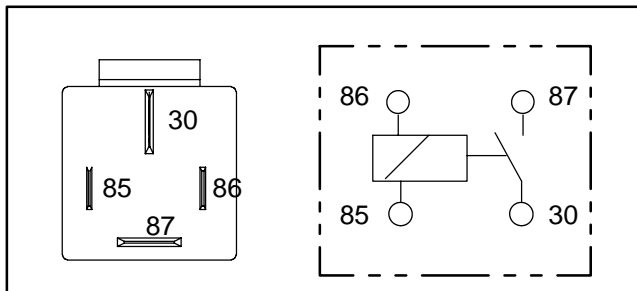

Figure 29
4. Verify coil resistance between terminals 85 and 86 with a multimeter (ohms setting) (Fig. 29). Resistance should be approximately 72 ohms.